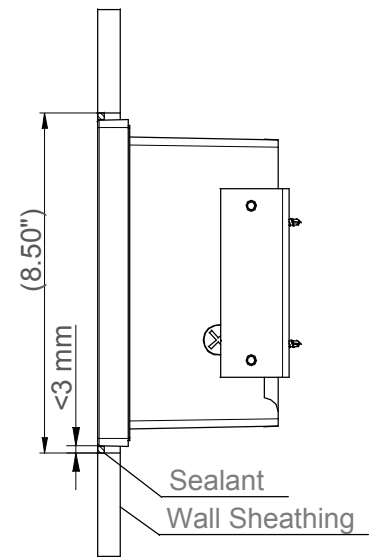

Figure 3
11. Install Wall Sheathing. Keep gap between housing edges and sheathing no greater than 1/8". See Figure 3.
12. Place some silicone in the gap of between housing edges and sheathing. Remove debris from sealing surface. See Figure 3.